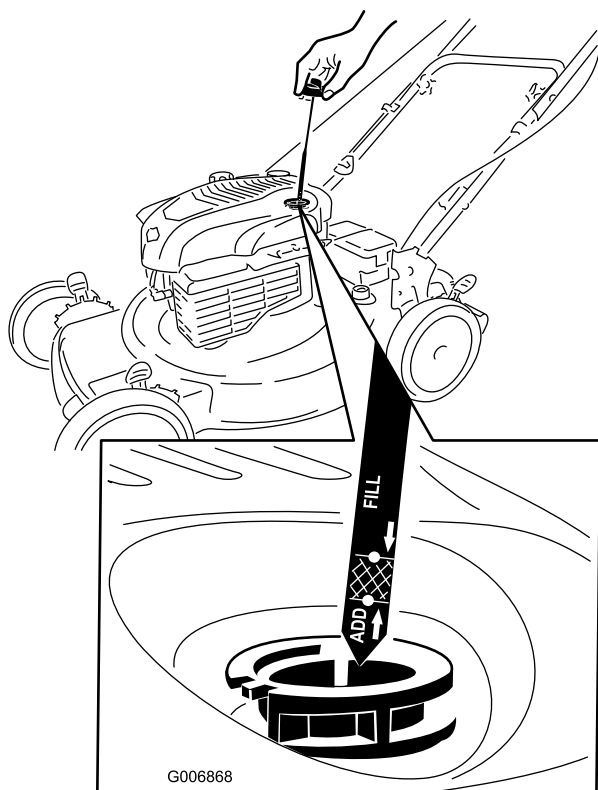

Figure 6
1. Remove the dipstick (Figure 6).
2. **Slowly** pour oil into the oil fill tube until the oil level reaches the **Full** line on the dipstick (Figure 6). **Do not overfill.** (Max. fill: 20 oz. (0.59 l), type: SAE 30